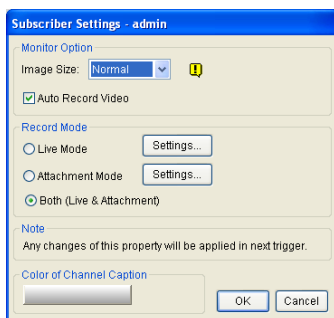

Figure 1-4
In the Subscriber Settings dialog box (see Figure 1-4), select **Attachment Mode**, and click the **Settings** button beside. This dialog box appears.
1. On Center V2 window, click the **Accounts** button (No.7, Figure 1-1), highlight a subscriber, and click the **Subscriber Setting** button on the toolbar. The Subscriber Settings dialog box (see Figure 1-4) appears.